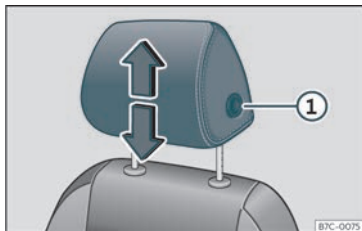
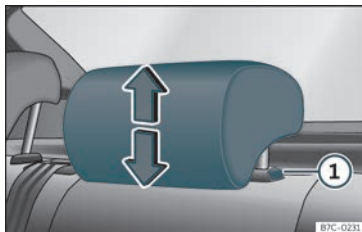

Fig. 98 Front seat: headrest adjustment.
Fig. 99 Rear headrest: headrest adjustment.
• Grab the sides of the headrests with both hands and push upwards to the desired position. To lower it, repeat the same action, pressing the ① >>> Fig. 98 >>> Fig. 99 button on the side.
• Press the side button >>> Fig. 98 ① and remove the headrest.